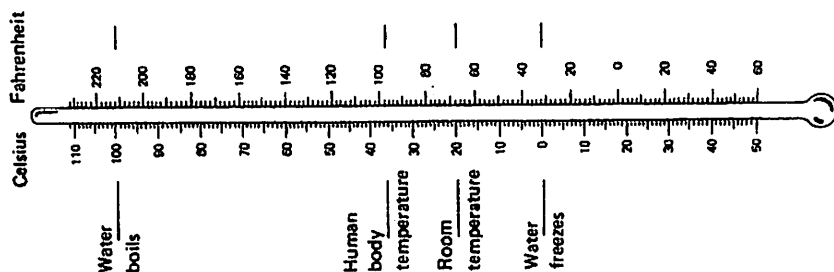

Figure 1-15
1. A thermometer is used to measure temperature and temperature changes. Examine your thermometer and the temperature range for the Celsius temperature scale. Compare the Celsius scale with the Fahrenheit scale as shown in Figure 1-15. What do you observe?